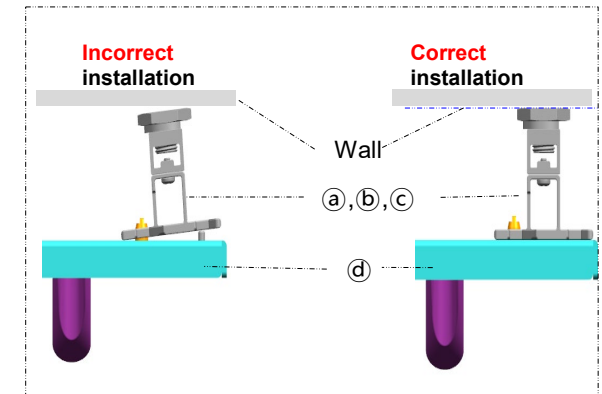

Fig.4 Keeping frames parallel
- ※ Caution: The surface ㉜ should be attached to ㉠ and ㉡. The three surfaces (the wall, ㉠ and ㉡, and ㉜) should be in parallel. (See Fig.4)